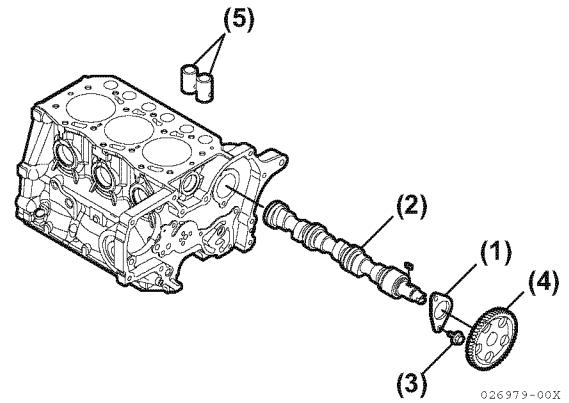

Figure 6-47
- Remove two bolts (**Figure 6-47, (3)**) retaining the camshaft thrust plate (**Figure 6-47, (1)**).
- Extract the tappets (**Figure 6-47, (5)**) through the top of the cylinder block. Mark the tappets so they can be reinstalled in the same location.
- Slowly pull the camshaft (**Figure 6-47, (2)**) assembly out of the engine being careful not to damage the front camshaft bushing.
- Remove the camshaft gear (**Figure 6-47, (4)**) only if the gear or camshaft require replacement. Use a knife-edge puller and a press to remove the gear. The gear is a shrink-fit and will need to be heated to 356° - 392°F (180° - 200°C) to remove.